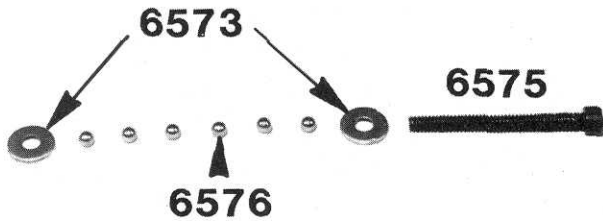

Fig. 35
□ **Fig. 35** Take out the #6575 diff thrust bolt, the two #6573 diff thrust washers and the #6576 carbide thrust balls.